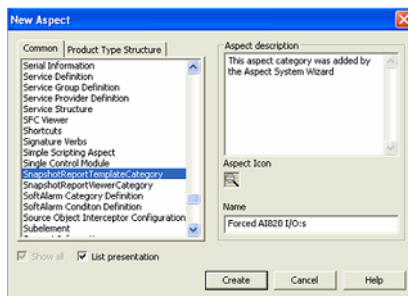

Figure 4. Creation of a Snapshot Report template.
2. Browse to the SnapshotReportTemplate aspect, the **Name** field displayed in Figure 4 requires a unique and easily understandable name.